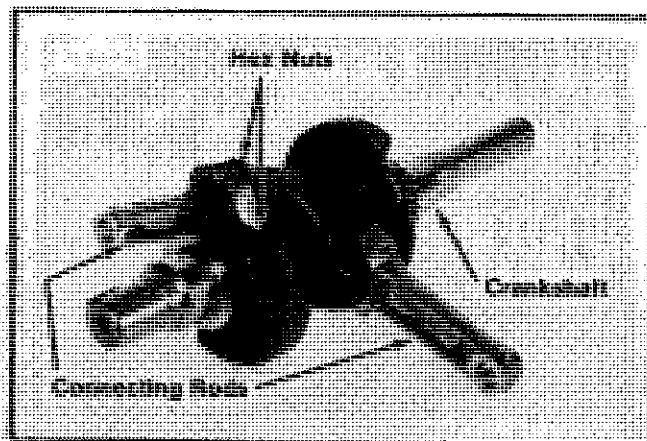

Figure 9-35. Removing Connecting Rods
2. Remove the hex nuts, connecting rod caps, and connecting rods from crankshaft. Refer to Figure 9-35.